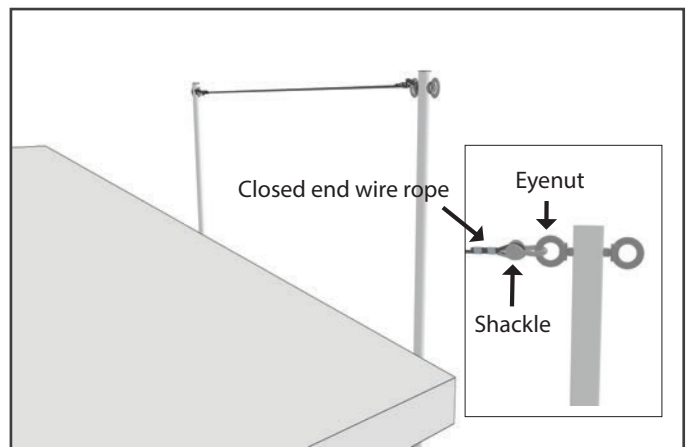

Fig. 14
2. Place shackle on eyenut at end of arm and hook closed ends of the exterior wire cable into the shackle. Continue same process for remaining arms. (see figure 14)